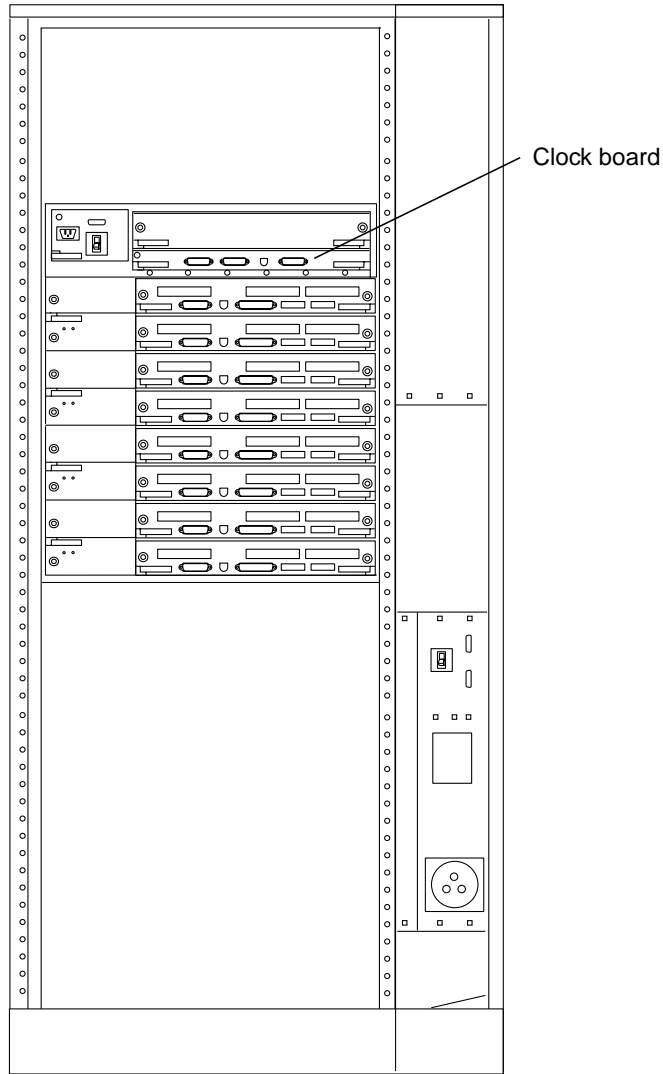

FIGURE 5-2 Rear View of the Sun Enterprise 6000 System
2. **Remove the clock board from the system (see FIGURE 5-2).**
Note – FIGURE 5-2 shows a 16-slot system. Systems also come in 4-, 5-, and 8-slot configurations.